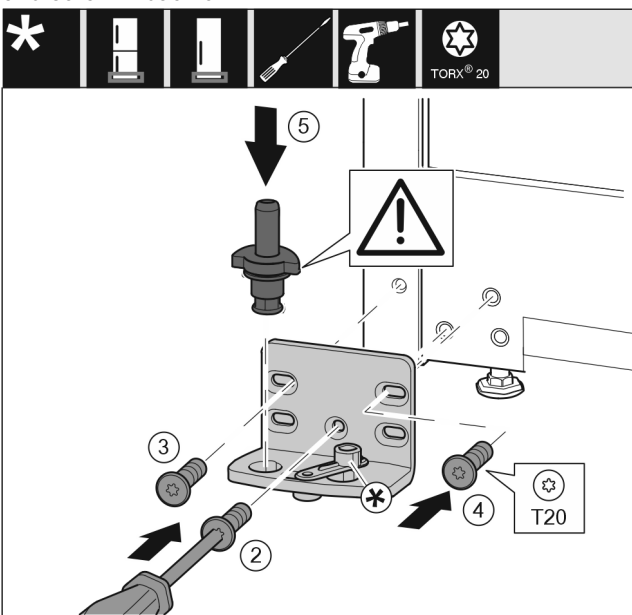

Fig. 15
- Place the swap bearing block on the other side and use a screwdriver to screw it on. Start with the screw Fig. 15 (2) at the bottom in the middle.
- Tighten screw Fig. 15 (3) and screw Fig. 15 (4).
- Insert the bearing bolt Fig. 15 (5) completely. Ensure that the latching cam is pointing towards the rear.